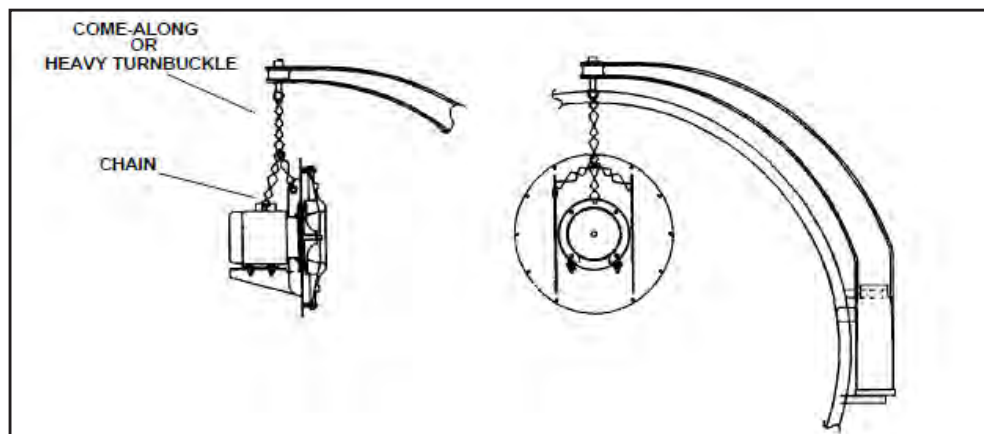

FIGURE 8-2. Fan/motor cassette rigging
4. Connect the davit arm to the fan/motor cassette using the suspension system diagrammed in **Figure 8-2**